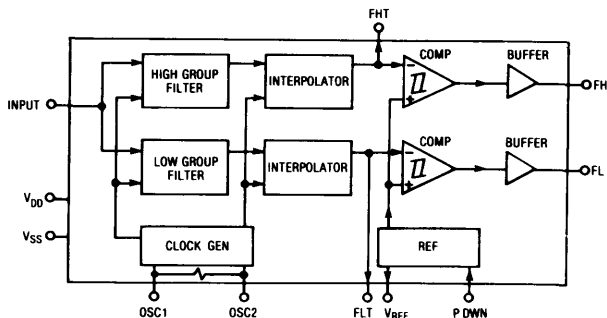

Fig.2 MV8865X functional block diagram
Within the MV8862(3) FL and FH signals are operated on by a complex averaging algorithm. This is implemented using digital counting techniques (Control/Discriminators, Fig.2) to determine the frequencies of the incoming tones and verify that they correspond to standard DTMF frequencies. When both high group and low group signals have been simultaneously detected, a flag EST (Logic High), is generated. EST is generated (cancelled) rapidly on detecting the presence (absence) of a DTMF tone pair (see Fig.3) and is used to perform a final validity check.